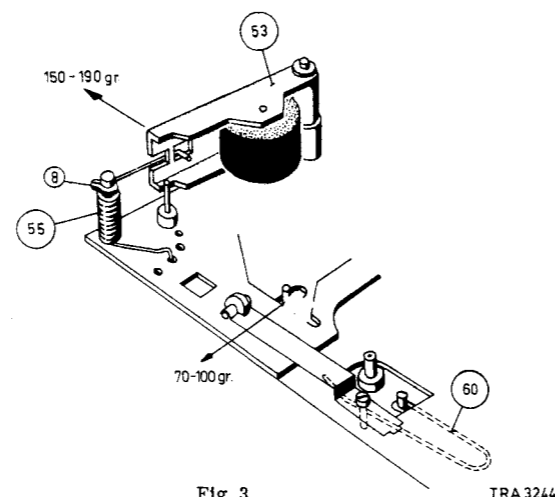

Fig. 3
Pressure roller lever (Fig. 3)
Checking the winding friction 63 (Fig. 3)
- . If the current increase is less than 8 mA, the pressure of the pulley of idler bracket 63 onto the right-hand turntable must be reduced to min. 70 grammes (see Fig. 3).